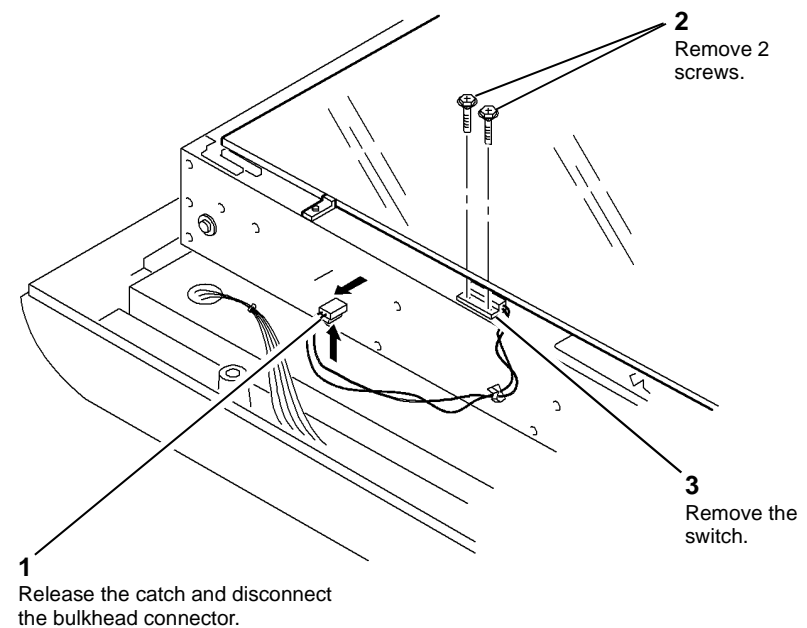

Figure 1 DADH closed switch
4. Remove the DADH closed switch, Figure 1.